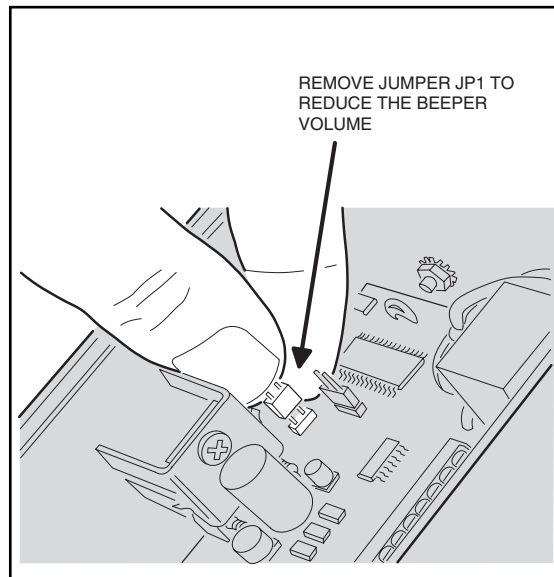

Figure 9. Removing the Beeper Jumper
- If the keypad's beeper is too loud for the keypad's location, remove jumper JP1 (see Figure 9).